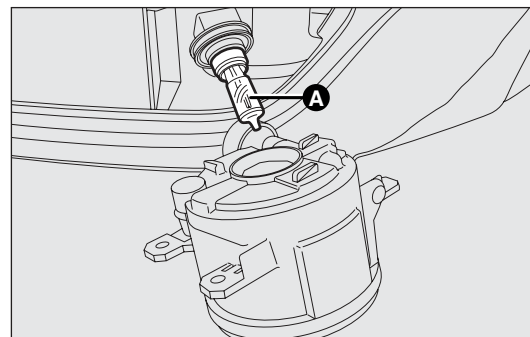

fig. 168
- ☐ remove the bulb A-fig.168 by rotating it counter-clockwise and disconnect the electrical connector.